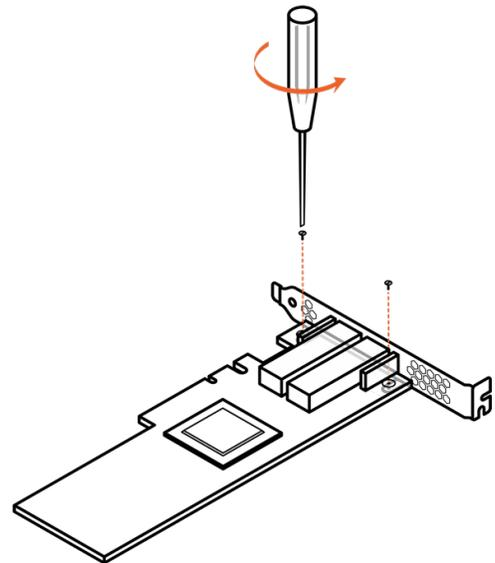

Figure 14-2. Removing the Long Bracket
2. Being careful not to touch the exposed circuitry on the card, loosen and remove the screws that hold the front bracket to the PCIe card. Set the screws aside. You will use the screws to attach the short bracket. See Figure 14-2.